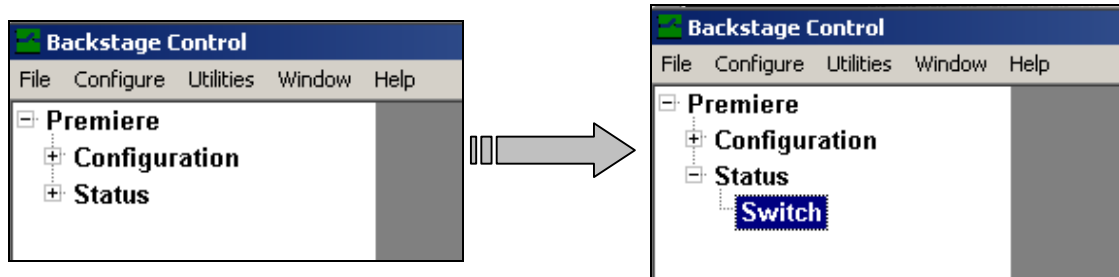

FIGURE 75: Expanding The Root Directories
1. In the tree window, access the Switch directory by expanding the Premiere and Status root directories by clicking on the x-box (☒) adjacent to each directory (see Figure 75).